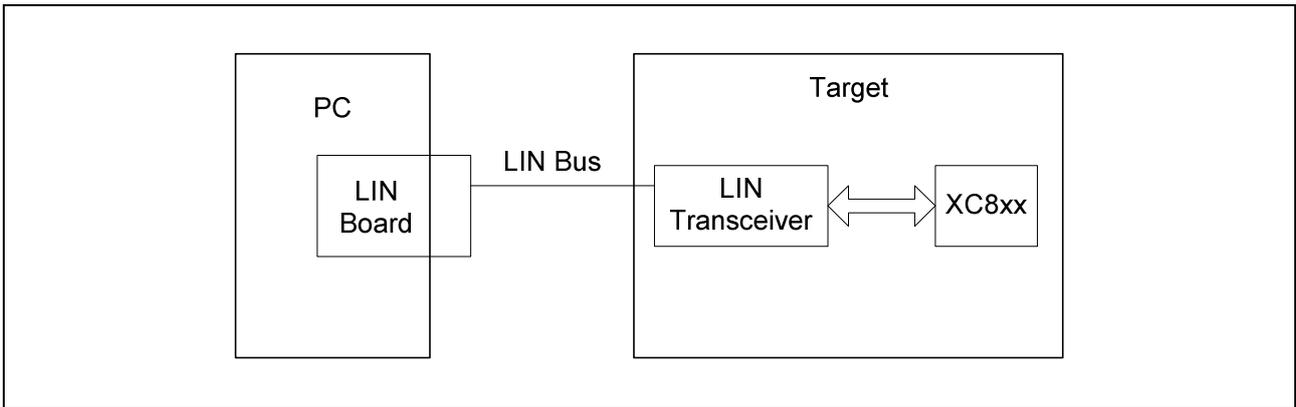

Figure 5 The connection between a PC and a target system with LIN transceiver for LIN BSL programming.
- Figure 5 shows the connection between a PC and a target system with LIN transceiver for LIN BSL programming. In this case, the user should check the “Use LIN Transceiver” under the “Option” menu.